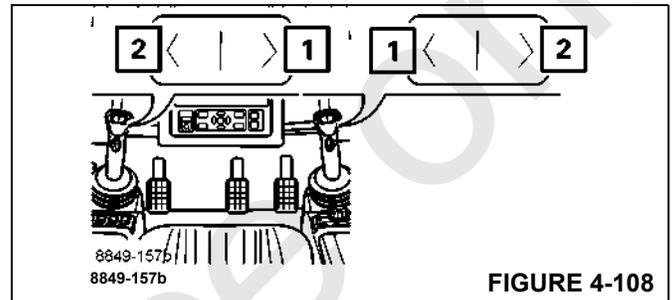

FIGURE 4-108
- Press the button (1), (Figure 4-108). High-speed mode will be active until you release the button.
- Press the button (2), (Figure 4-108). High-speed mode will be enabled until you press the button again.